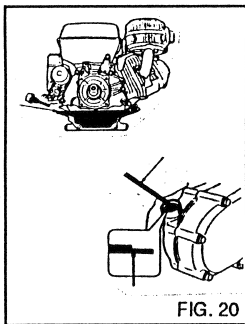

FIG. 20
From time to time check oil level in the petrol engine by removing the plug with the dipstick (fig. 20). Change oil after the first 20 hours of work and subsequently every 100 hours. Use only SAE 20W/40 oil. Proceed as follow:
- 3) Remove the cap with the dipstick (fig. 20).
- 6) Pour oil in through the hole on the top and check oil level with the dipstick (fig. 20).